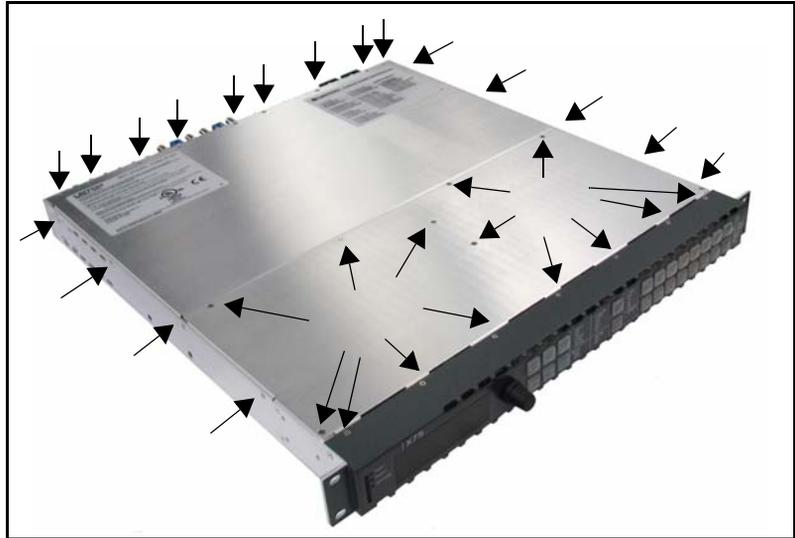

Figure C-34. Chassis Cover Screws
1. Remove the screws along the back edge and on each side of the frame's chassis covers (Figure C-34), and then slide the covers off. Retain the screws for later use.